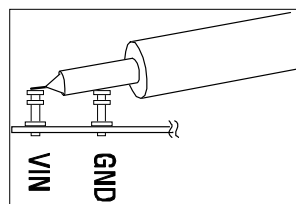

Figure 2. Measuring Input or Output Ripple
**NOTE:** When measuring the input or output voltage ripple, care must be taken to avoid a long ground lead on the oscilloscope probe. Measure the input or output voltage ripple by touching the probe tip directly across the  $V_{in}$  or  $V_{out}$  and GND terminals. See the proper scope probe technique in figure 2.
5. Set the load current of both outputs to 3A and the input voltage to 5.5V, and then measure each output ripple voltage (refer to figure 2 for proper measurement technique); they should each measure less than 30 mVAC. Also, observe the voltage waveform at either switch node of each regulator. The switching frequencies should be between 1.85 MHz and 2.65 MHz ( $T = 540$  ns and 374 ns). In all cases, both switch node waveforms should be rectangular in shape, and 180° out-of-phase with each other. Change the shunt position on header J5 to set the switch waveforms in phase with respect to each other. To operate the ckt.s in Burst Mode™ or pulse-skip mode, change the shunt in header J7. When finished, insert shunts XJ1 and XJ2 to the OFF position(s) and disconnect the power.